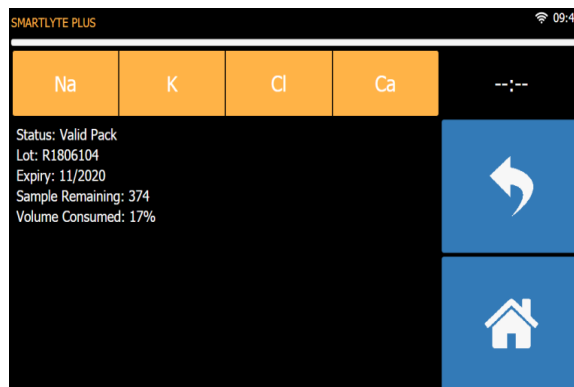
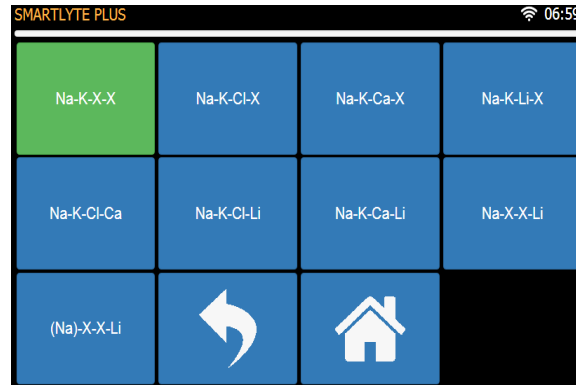

Figure 1-57 Pack Status
Figure 1-58 Parameter Configurations
- Press **[OPERATOR SETTINGS]** (Figure 1-53), then **[CHANGE ELECTRODES]** (Figure 1-58). This brings up the selection of parameter configuration (Figure 1-57).
- Once electrodes are in closed tray, press **[MAINTENANCE]** (Figure 1-58) and proceed to clean and condition according to steps in section, 1.5.12.